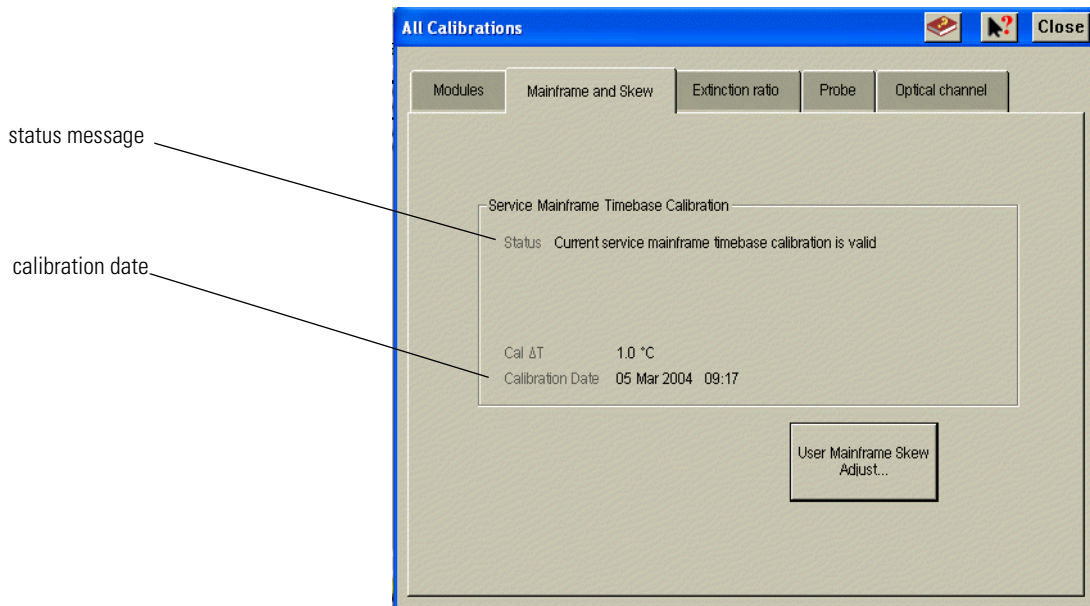

Figure 1-24. Mainframe timebase calibration status and date
- a On **Calibrate** menu, click **All Calibrations**. Click the **Mainframe and Skew** tab. Record the calibration date for use later in this procedure. See Figure 1-24.
- g Confirm that the displayed calibration date is the same date that you recorded in Step 2. Verify that the displayed status message reads “Current service mainframe timebase calibration is valid.” See Figure 1-24 on page 32.